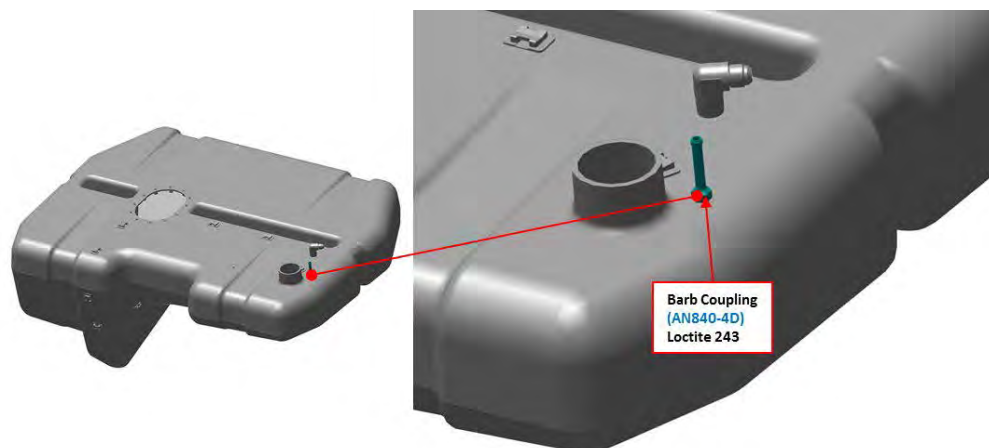

FIGURE 10-17
6. Apply THREADLOCKER as a 360° bead to the leading threads of BARB-PIPE THREAD COUPLING and install into fuel tank as shown in Figure 10-17. Wrench tighten 2-3 turns past finger light.